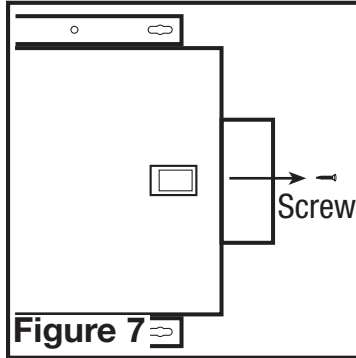

Figure 7
- Determine the CFM required. The unit can be set from 40 CFM to 120 CFM in increments of 10 CFM. Remove the screw securing the access panel cover in place and open the cover to gain access. Locate the speed control panel inside the unit (**Figure 7**).